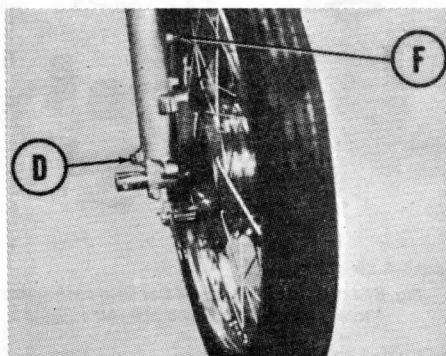

Fig. BE1-3—Oil in front forks is drained at screw (D). Oil should be maintained at level of filler screw hole (F).
SUSPENSION. Each front suspension unit is drained at plug (D—Fig. BE1-3). Fill to the level of filler plug (F) with SAE 20 motor oil. Fluid in the front suspension should be checked every 1,000 miles and drained every 5,000 miles. The rear suspension units are available only as complete assembly and should be renewed if bent, leaking or otherwise damaged.